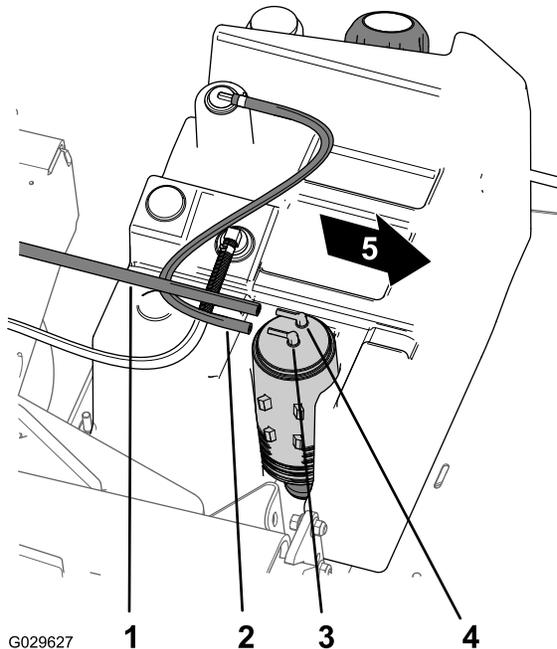

Figure 49
- Remove the vacuum hose from the fitting on the carbon canister marked Purge (Figure 49).
- Remove the fuel-tank hose from the fitting on the carbon canister marked Fuel Tank (Figure 49).
8. Assemble the vacuum hose onto the fitting on the carbon canister marked Purge and the fuel-tank hose to the onto the fitting marked Fuel Tank (Figure 49).